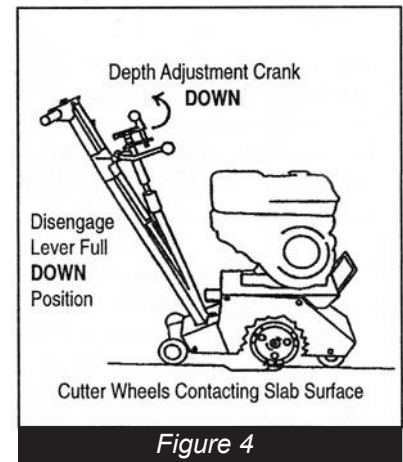

Figure 4
- Slowly lower the cutter head to the slab surface with the cutter head lever. (Figure 2, Item 1) & (Figure 4)